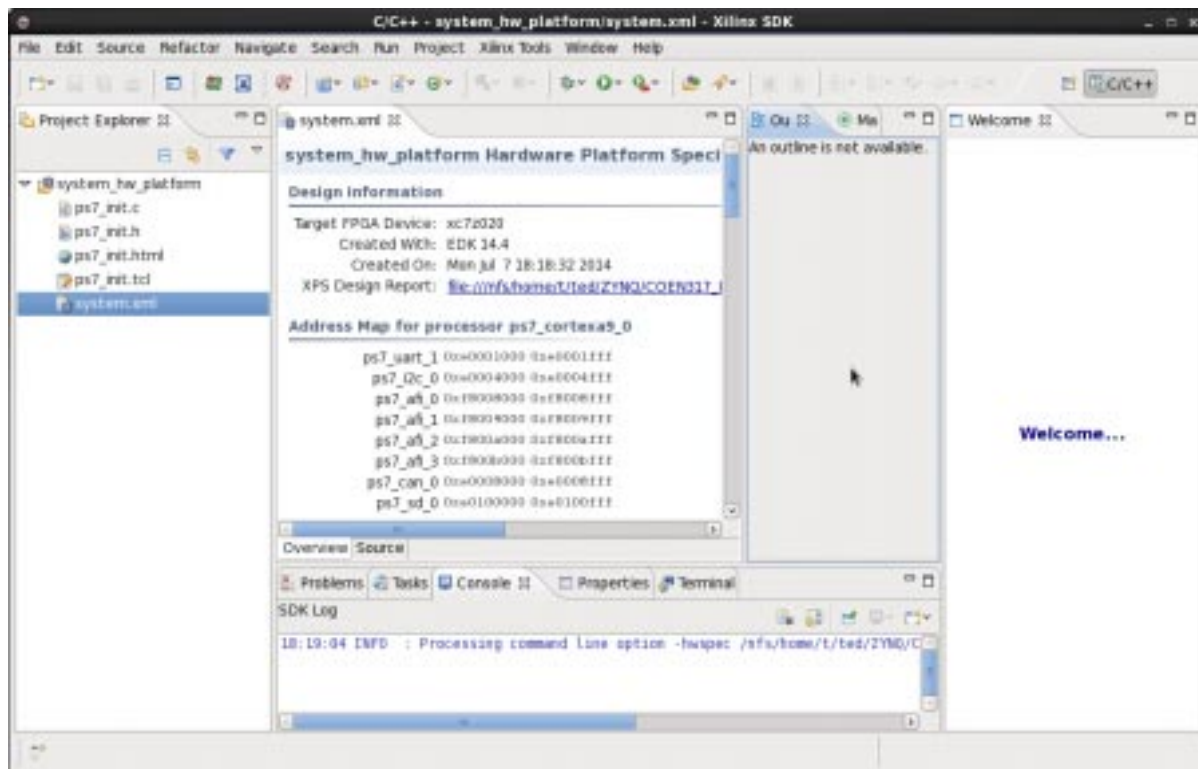

Figure 13: Main SDK window.
SDK will open as shown in Figure 13.
7.1 From the main SDK window (Figure 13), select **File -> New -> Application Project**.